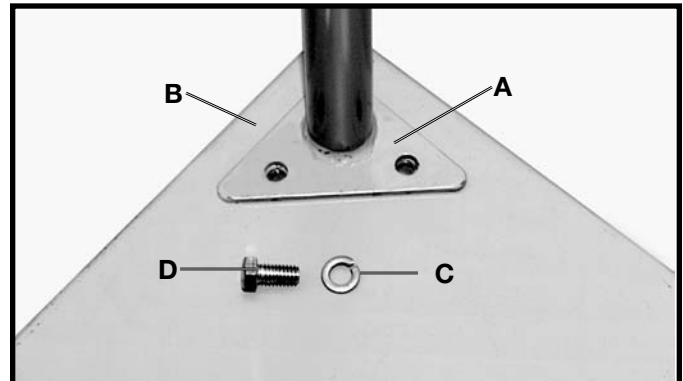

Fig. 16
1. Assemble end of drum support post (A) Fig. 16, to threaded holes in one corner of base (B). Place a 5/16" lockwasher (C), on a 5/16-18 x 5/8" hex head screw (D), insert the screw through the hole in the support post and thread the screw into the hole in the base. Repeat this process for the remaining hole. Assemble the remaining three drum support posts to the base in the same manner.